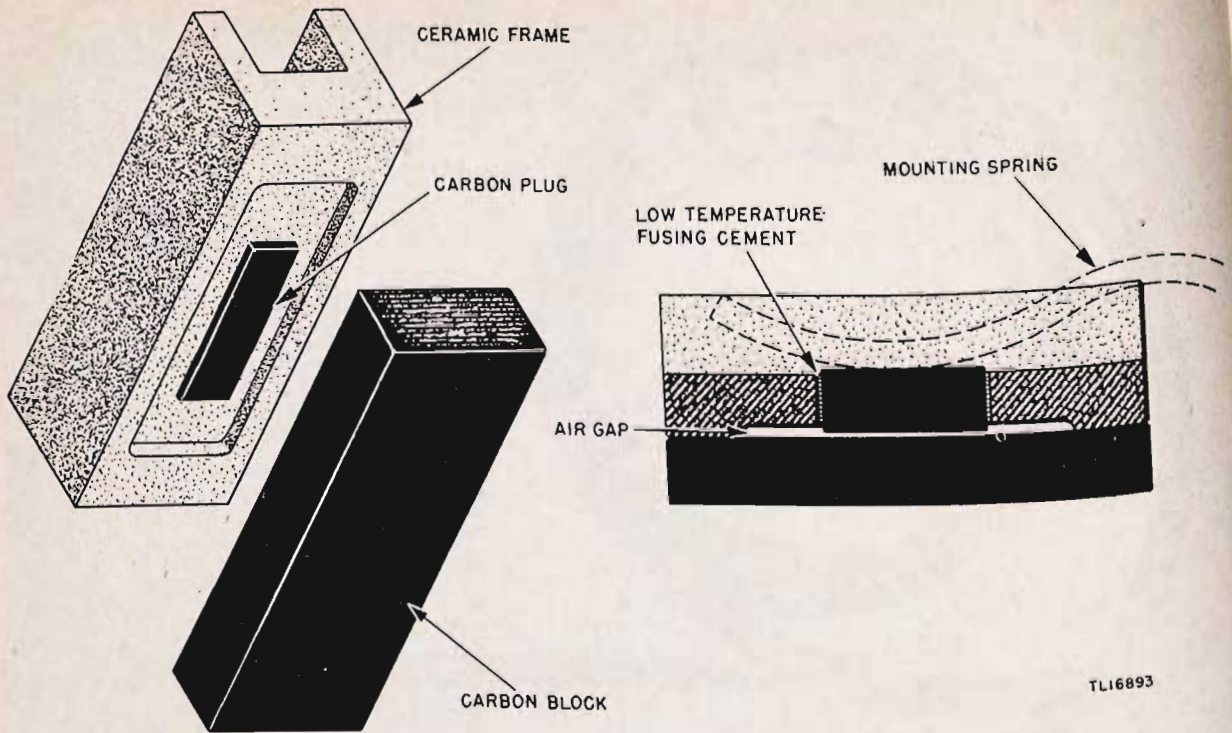

Figure 21. Lightning arrester.
a. Four lightning arresters are provided on the front panel of Radio Transmitter T-30/TRC-8 (XC-3) to protect the equipment against lightning discharges picked up by the spiral-four cable (fig. 8). Each arrester consists of two units: a solid carbon block mounted on the ground side of the holder, and a ceramic frame containing a carbon plug held in place with low-temperature fusing cement (fig. 21). When these two blocks are held together, the air gap between them protects against all voltages likely to be encountered. Ordinary lightning discharges picked up by the spiral-four cable will cause an arc across the air gap between the carbon blocks, but will not generate enough heat to melt the cement holding the carbon plug in place. A short